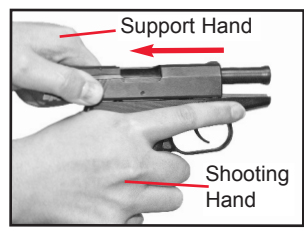

Figure 8
4. Pull and hold the Slide fully rearward with your support hand. If a cartridge was in the chamber, it should be ejected at this time. See Figure 8.